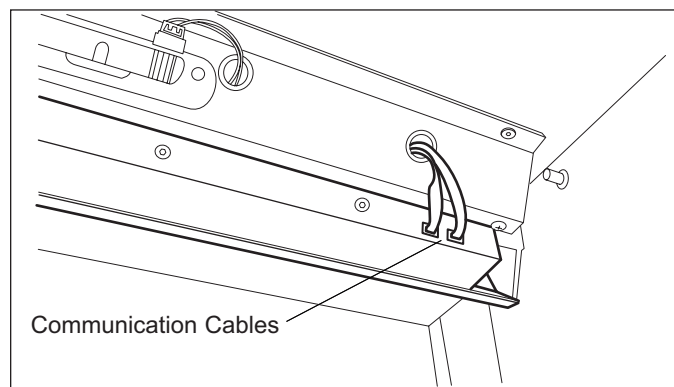

Figure 7-22. Control Panel Removal
2. Disconnect the communication cables from **the left rear side of the control panel**. (See Figure 7-22)